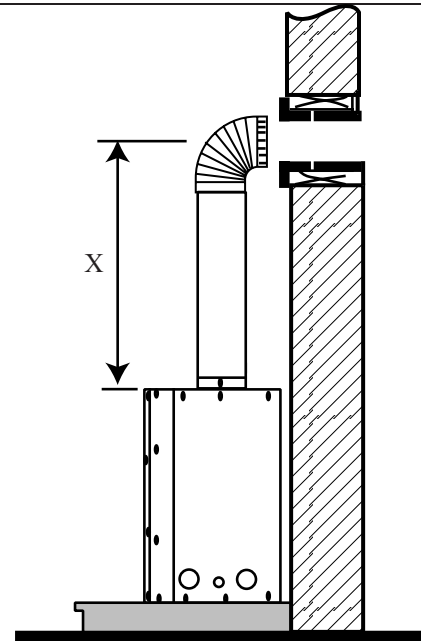

Fig. 26
Place fireplace into position. (Fig. 26). Measure the vertical height (X) required from the base of the flue collars to the centre of the wall opening.